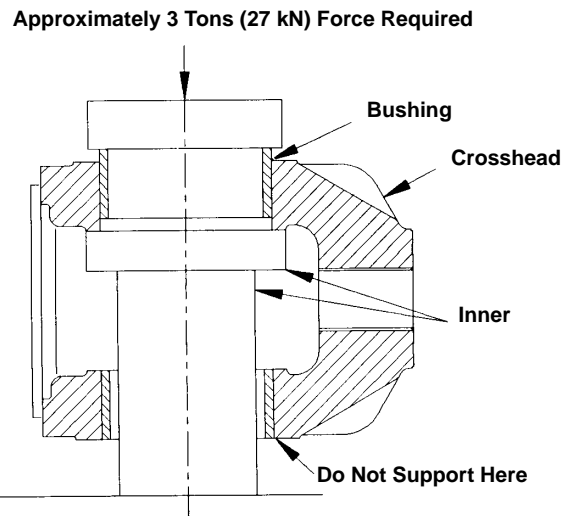

FIGURE 5-3 CROSSHEAD BUSHING REPLACEMENT
**NOTE: THE SIDE OF THE CROSSHEAD RECEIVING THE NEW BUSHING SHOULD BE SUPPORTED DIRECTLY TO PREVENT POSSIBLE CRUSHING OF THE CROSSHEAD BY THE PRESS. (SEE Figure 5-3)**